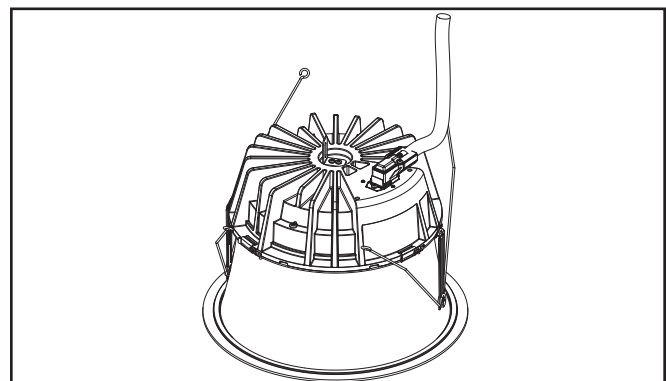

Figure 7.
3. Properly align the connector as shown in (Figure 7). Plugin the luminaire quick disconnect on the module.